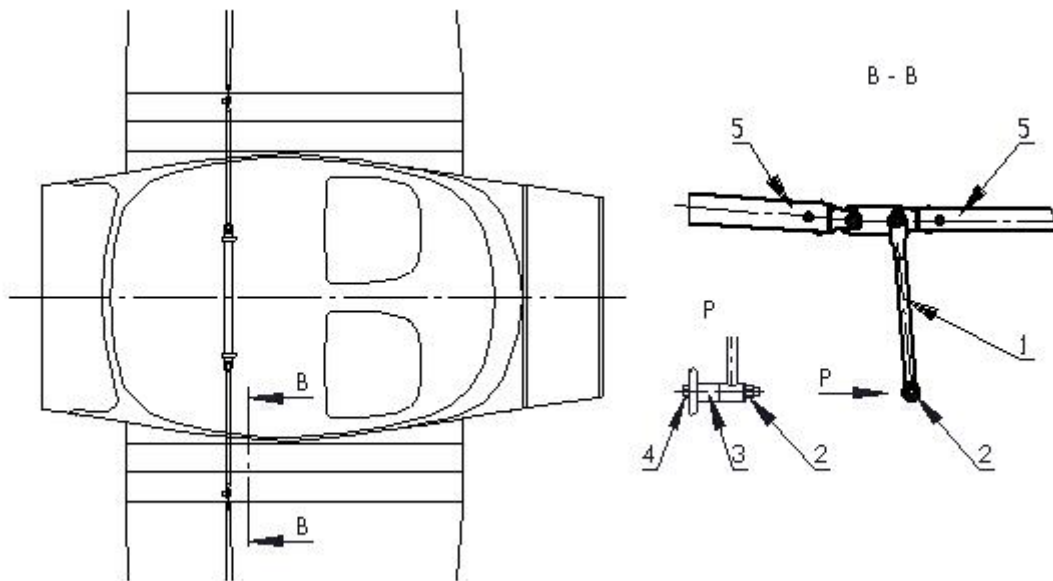

Fig. 6-9
- (b) Disconnect both push rods (5) from the control lever (1) (see Fig. 6-9).
- (d) Remove control lever from the bolt (4).
- (a) Insert the control lever (1) on the bushing (3) (see Fig. 6-9).
- (b) Connect the nut (2) on bolt (4).
- (c) Connect control push rod (5) with control lever.